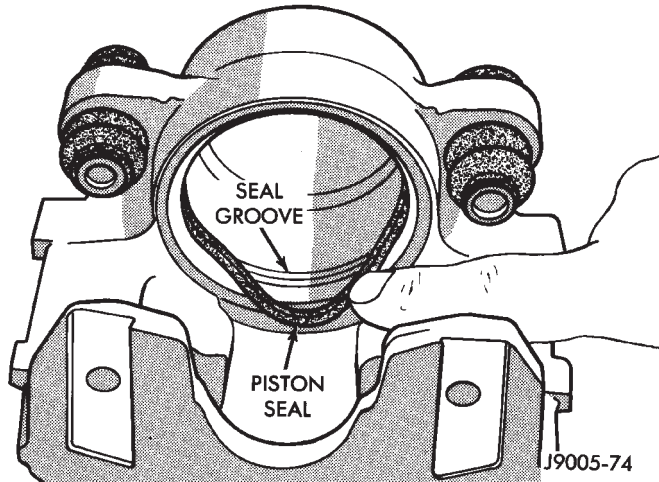

Fig. 52 Piston Seal Installation
- (4) Install new piston seal into seal groove with finger (Fig. 52).